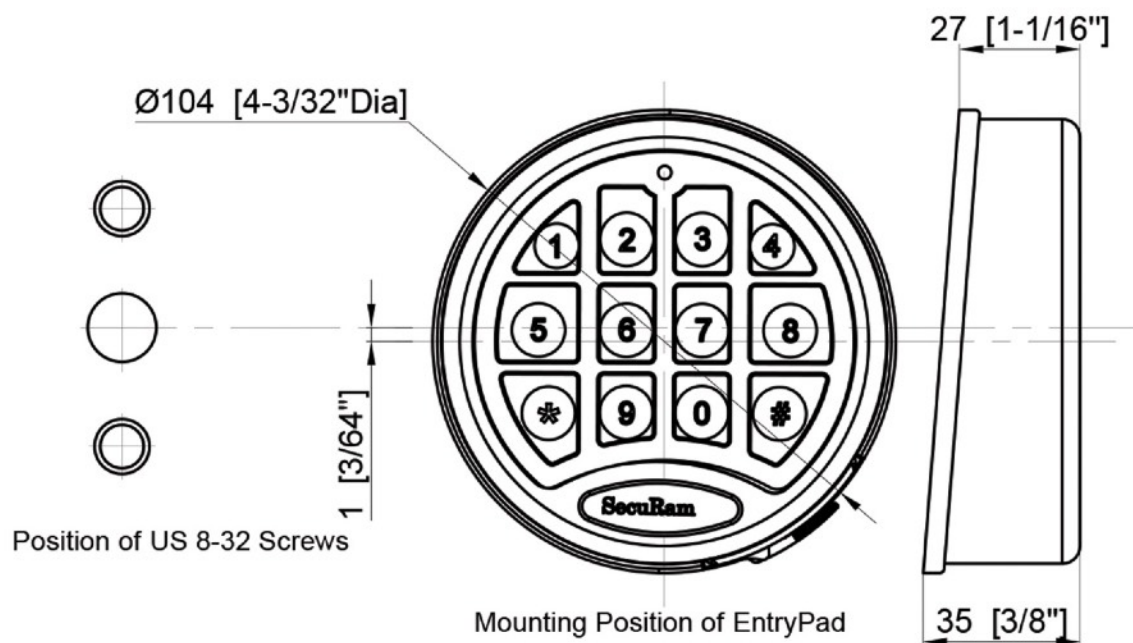

Fig. 8
4. All SecuRam Entrypads have the same diameter of 4-3/32"(104mm). (Fig. 8)